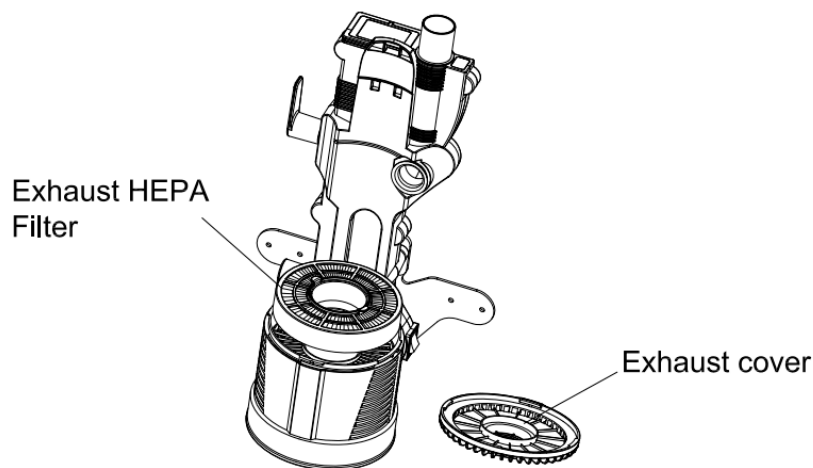

Fig 13
1. Open the exhaust cover by rotating in count clockwise. (Fig 13)
2. Put the exhaust HEPA out of the unit. (Fig 13)